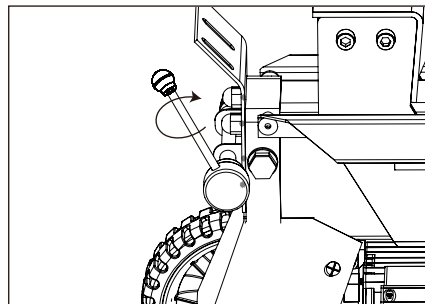

Fig. 2
8. This tool is intended for use on a circuit that has an outlet that looks like the one illustrated in Sketch A in Figure 2. The tool has a grounding plug that looks like the plug illustrated in Sketch A in Figure 2. A temporary adapter, which looks like the adapter illustrated in Sketches B and C, may be used to connect this plug to a 2-pole receptacle as shown in Sketch B if a properly grounded outlet is not available. The temporary adapter should be used only until a properly grounded outlet can be installed by a qualified electrician. The green-colored rigid ear, lug, and the like, extending from the adapter must be connected to a permanent ground such as a properly grounded outlet box.
2. Align the hydraulic control lever to the hole of the connector, then turn it clockwise and tighten securely. (Fig. 2)